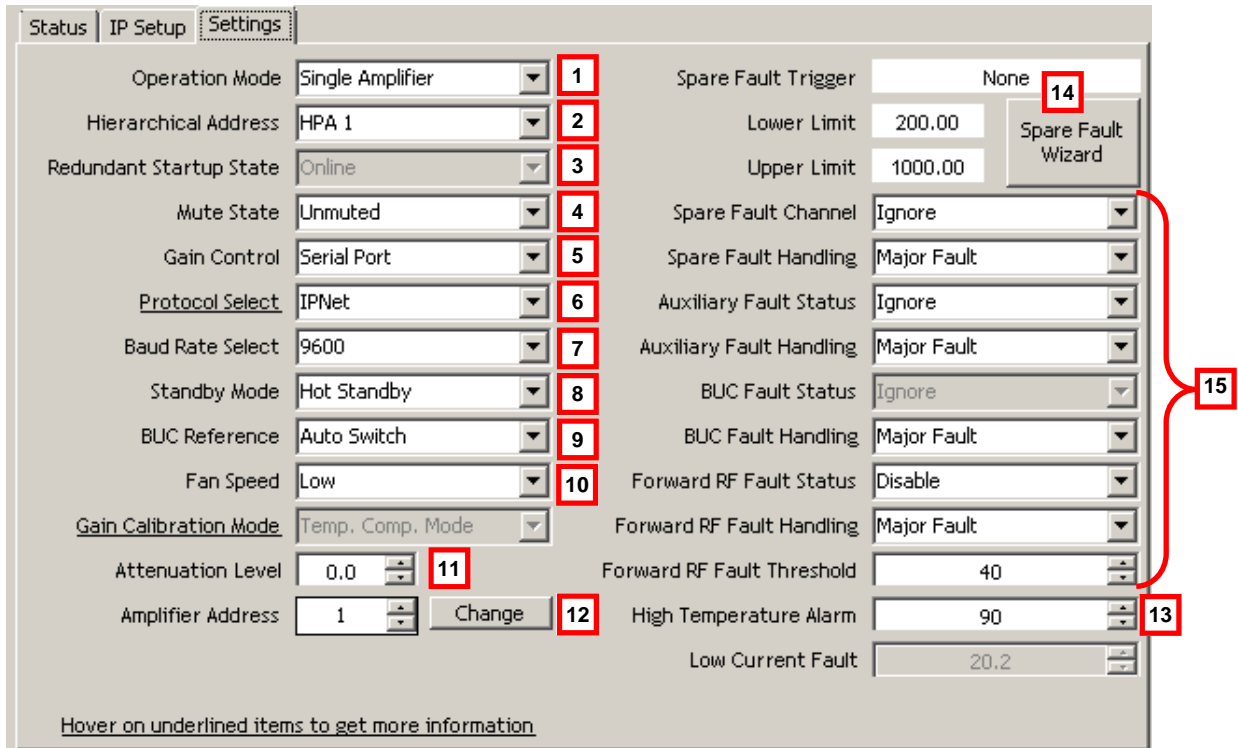

Figure 3-13: Universal M&C, Settings Tab
Figure 3-13 shows the Settings tab of the Universal M&C Software. The Settings tab contains many of the global settings that are available in the SSPA.
- Make sure that the Protocol setting in the Settings tab of the Universal M&C is set to **IPNet**, as shown in **Figure 3-13**.